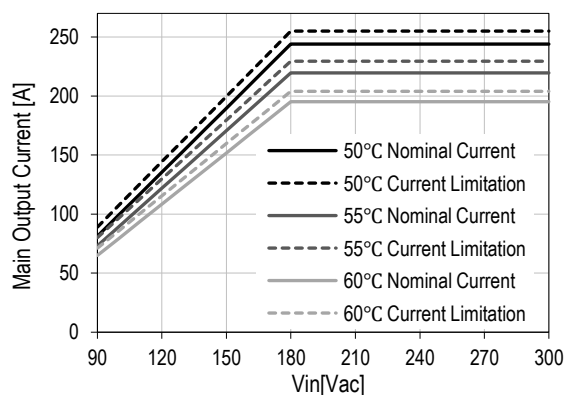

Figure 20. Derating on  $V_1$  vs  $T_a$  &  $V_{in}$
4) See Figure 20 for linear derating > 50 °C
The main output current limitation level  $I_{V1\ lim}$  will decrease if the ambient (inlet) temperature increases beyond 50 °C (see *Figure 20*). Note that the actual current limitation on  $V_1$  will kick in at a current level approximately 10A higher than what is shown in *Figure 20* (see also section 9 for additional information).